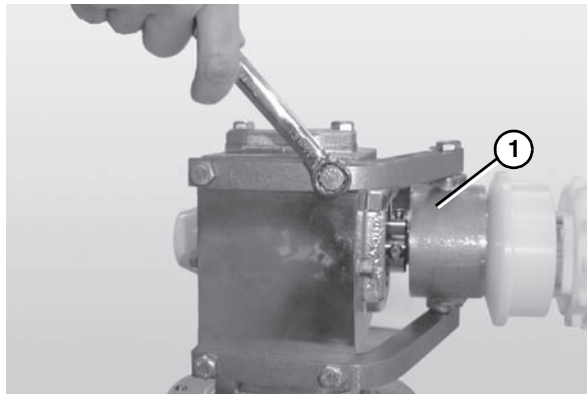

Figure 62
4. Unbolt the drive assembly and slide it off the bearing spindle (**Figure 62, item 1**).